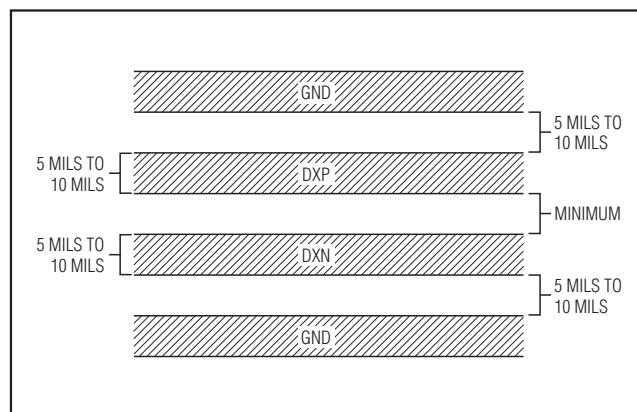

Figure 5. Recommended DXP-DXN PCB Traces. The two outer guard traces are recommended if high-voltage traces will be near the DXN and DXP traces.
- 3) Route the DXP and DXN traces in parallel and in close proximity to each other. Each parallel pair of traces should go to a remote diode. Route these traces away from any higher voltage traces, such as +12VDC. Leakage currents from PCB contamination must be dealt with carefully since a 20M Ω leakage path from DXP to ground causes about +1°C error. If high-voltage traces are unavoidable, connect guard traces to GND on either side of the DXP-DXN traces (Figure 5).